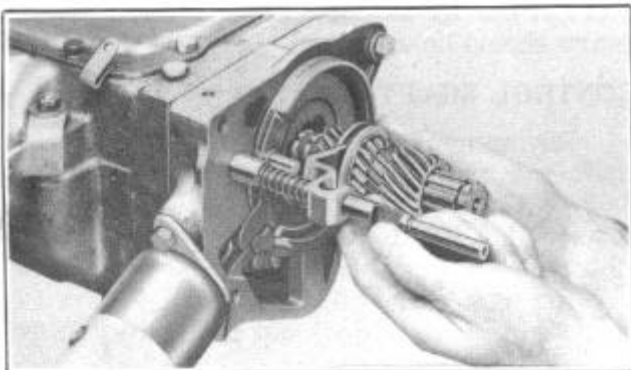
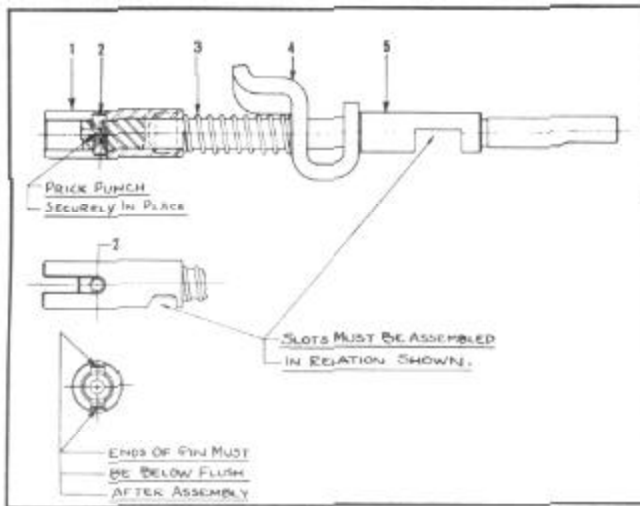

FIGURE 16
FIGURE 20
6. Remove the sun gear and shift rail assembly, Figure 16.
Drive out shift rail pin (2), Figure 20, remove sleeve (1), spring (3) and shifter fork (4).
4. Install the sun gear, shift rail and fork assembly, Figure 16. Check position of shift rail slots at assembly as shown in Figure 20. THIS IS IMPORTANT.
NOTE: If the shift rail assembly has been disassembled, prick punch pin (2), Figure 20, securely in place before re-installing assembly. Shifter fork should be a sliding fit in the sun gear collar groove.